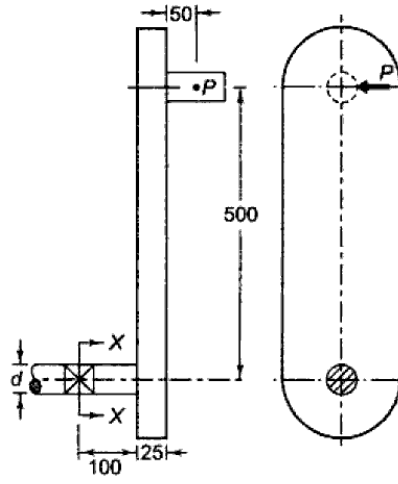

Figure 1(All dimensions are in mm.)
- (b) The dimensions of an overhang crank are shown in figure 1. The force P acting at crankpin is 1 kN. The crank is made of steel 30C8 with allowable shear stress 100 MPa. Using maximum shear stress theory of failure, determine the diameter at section XX. 04**